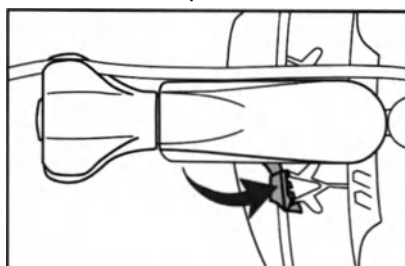

Figure 4a: Locking Lever in UNLOCKED position
4. To secure the ACROBAT-i Stabilizer to the retractor lock the Mount by pushing the Locking Lever towards the Mount body into the LOCKED position. Ensure the ACROBAT-i Stabilizer is attached securely to the retractor once the Mount is locked into place. Refer to Figure 4a and 4b for unlocked and locked positions.